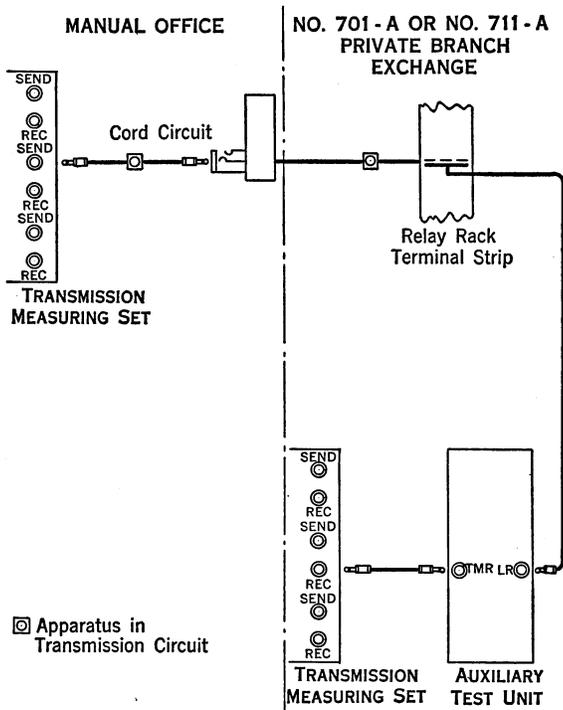

Figure 3
2.41 Figure 3 shows schematically the connections for the test.